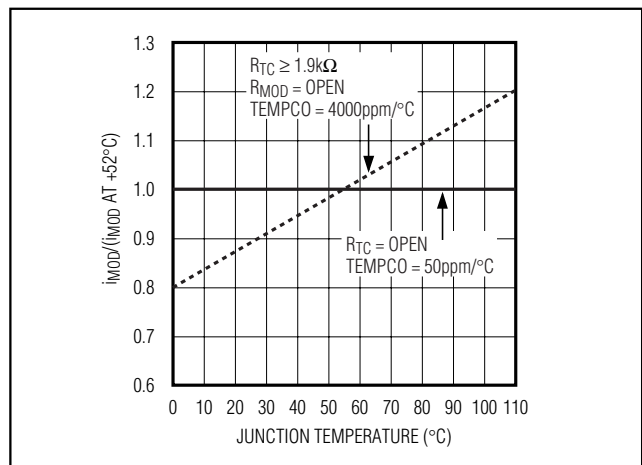

Figure 6. Modulation Current vs. Temperature for Maximum and Minimum Temperature Coefficient
The amplitude of the modulation current is set with resistors at the MODSET and temperature coefficient (TC) pins. The resistor at MODSET ( $R_{MOD}$ ) programs the temperature-stable portion of the modulation current, and the resistor at TC ( $R_{TC}$ ) programs the temperature-increasing portion of the modulation current. Figure 6 shows modulation current as a function of temperature for two extremes:  $R_{TC}$  is open (the modulation current has zero temperature coefficient), and  $R_{MOD}$  is open (the modulation temperature coefficient is 4000ppm/°C). Intermediate temperature coefficient values of the modulation current can be obtained as described in the *Design Procedure* section. Table 2 is the  $R_{TC}$  and  $R_{MOD}$  selection table.